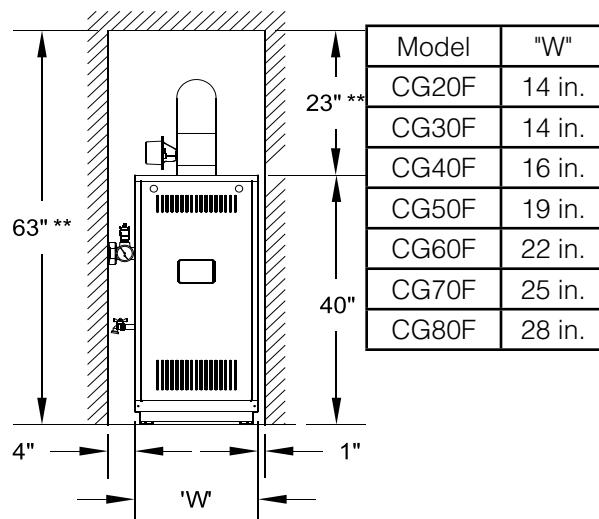

Figure 4-1: Minimum Closet Clearances
1. Provide clearances between boiler jacket and combustible material in accordance with authority having jurisdiction. Minimum clearances to combustible material shown in Figure 4-1 and 4-2.
- Maintain clearances to vent piping and draft hood per Figures 4-1 and 4-2.
1. Locate boiler as close to chimney as possible. See Figure 4-1 and 4-2 for minimum clearances.